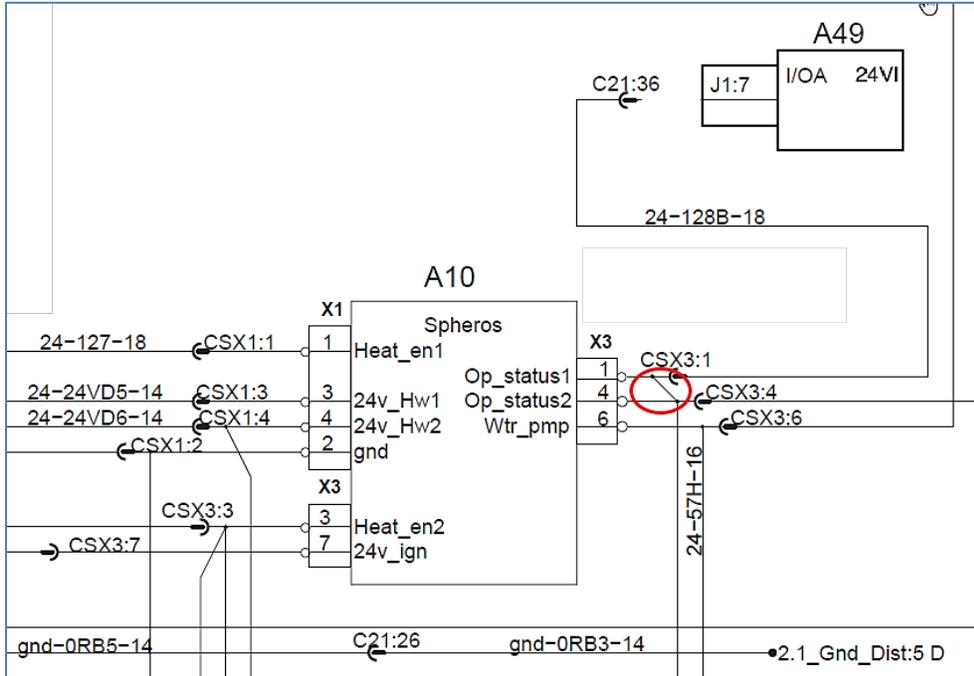

FIGURE 37
21. On the preheater harness, locate connector CSX3. Remove the jumper cable connected between connector CSX3 pin 1 cavity and pin 4 cavity (Figure 37).